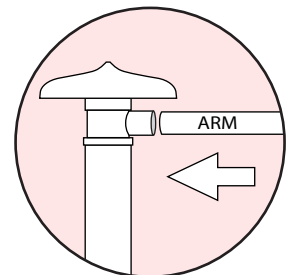
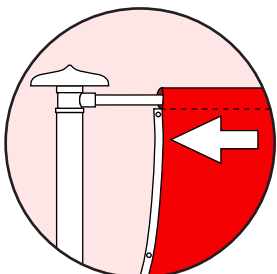

Fig 6a.
Fig 6b.
7. Push rotating arm into joint, ensure button clips into place (see fig 6a), slide top sleeve on flag over the arm. (see fig 6b)